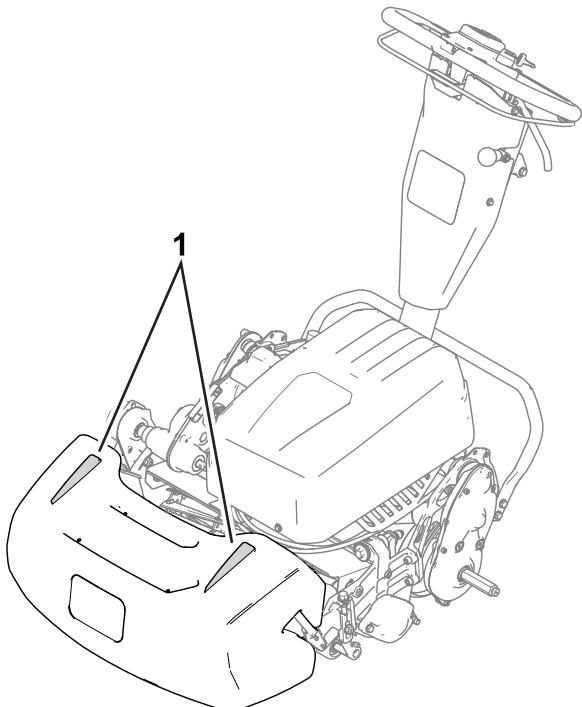

Figure 25
- To assist in maintaining a straight line across the green and to keep the machine an equal distance from the edge of the previous cut, use the alignment stripes on the basket (Figure 25).